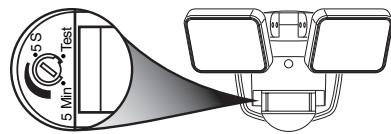

Figure 5
- Turn the control dial to the TEST position (see Figure 5). **Note:** When the control dial is set to the TEST position, the light fixture will operate during the day or night. The light will stay on for 8 seconds after all motion has stopped.